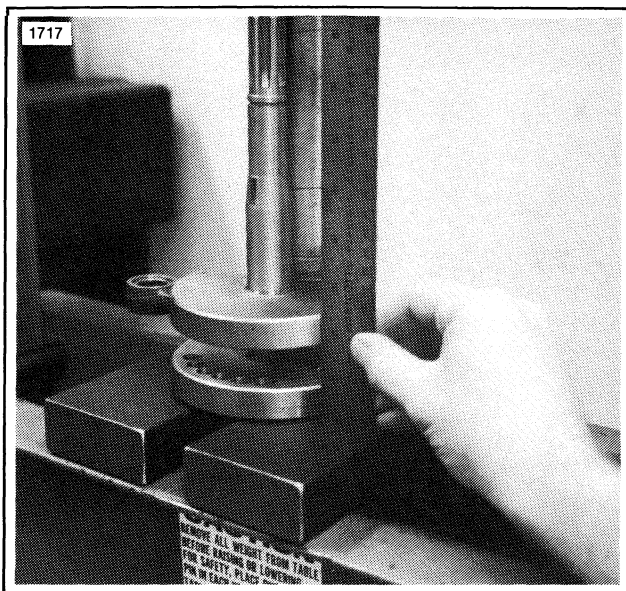

Figure 5-28. Aligning Crankshaft
2. See Figure 5-28. Place one crankshaft on a press bed and press the crank pin in until it is flush with the outside surface of the crankshaft.